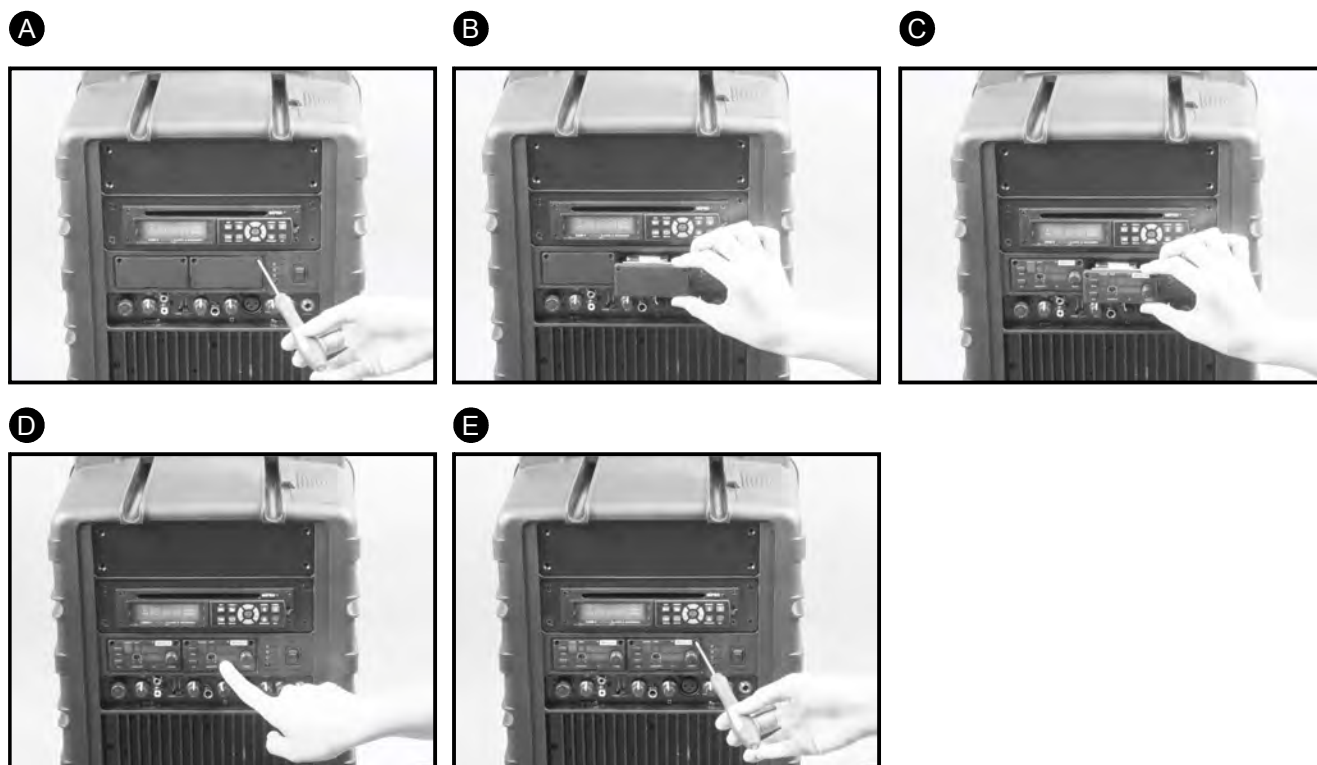

Fig. 13
2. Installation or replacement of wireless receiver modules, Fig. 13.
- (A) Using a Phillips-head screwdriver (not supplied) remove the screws to remove receiver protection cover panel. (see fig. **A** & **B**)
- (B) Gently insert the receiver module into the slot. Make sure the back edge connector is aligned and firmly connected. (see fig. **C** & **D**)
- (C) Tighten up the screws. (see fig. **E**)